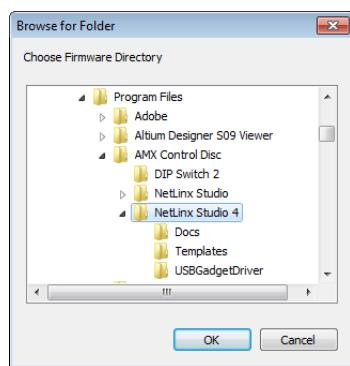

FIG. 102 Browse For Folder dialog
3. Click the Browse (...) button to navigate to the target directory (FIG. 102) in the Browse For Folder dialog. Select the desired files (for the Master upgrade and the switcher upgrade); click OK.